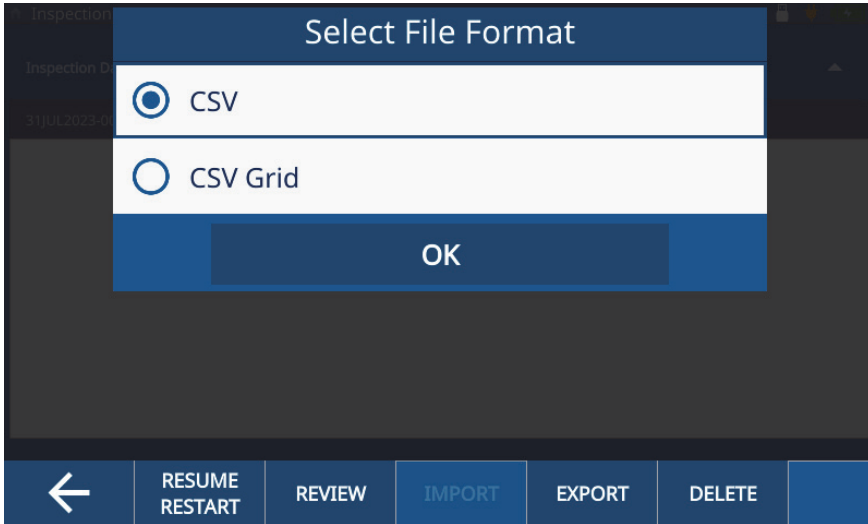

Figure 7-9 Select File Format Window
5. Select the preferred file format (CSV or CSV Grid) from the pop-up window and tap **OK** (see Figure 7-9 on page 69).